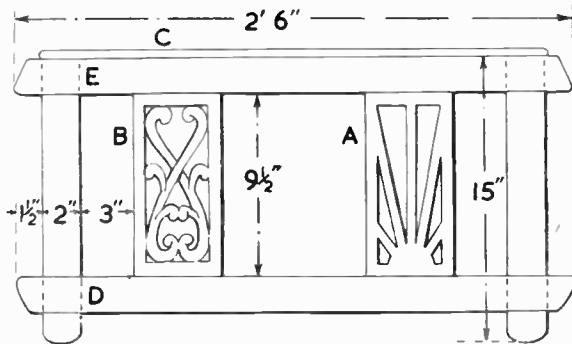

Fig. 1—Framework and dimensions of rails and panels
If you manage to get a photograph of a dog holding a stick, ball or bone, and if you are possessed of a little skill as an artist, you can show the dog holding an outside 'bone', as in Fig. 1.
Fig. 1 but these, of course, could very well be increased or reduced to suit the particular case in hand. This rack is, undoubtedly, a fretworker's task, as there is some simple shaping to be done. There are also showy pieces of work in the two panels which add so much to their attractiveness.
forms the connection between the lower rails and its upright rails, as at (D), while the open halving joint is used for the top rail at (E), Fig. 1.